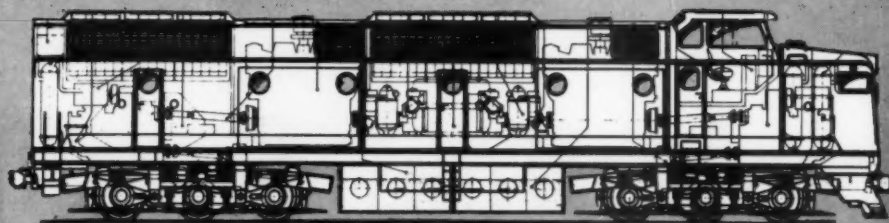

Fig. 1 Drawing of Krauss-Maffei locomotive designed for U.S. railroad applications
An outstanding development was the purchase by two Western U. S. railroads of three German-built diesel-hydraulic locomotives of 4000-hp rating [11], item 1, Table 2, Fig. 1. High-horsepower and high-adhesion